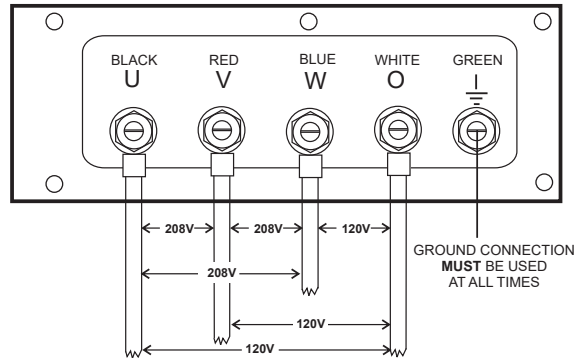

Figure 22. UVWO Terminal Lugs 3Ø-208V/1Ø-120V Connections
2. Connect the load wires to the UVWO terminals as shown in Figure 22.